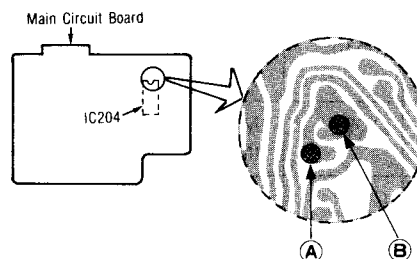

Fig. 22
- If the measured value is not within standard value, correct it by opening or closing the jumper junctions (A) and (B) as follows (See Fig. 22):